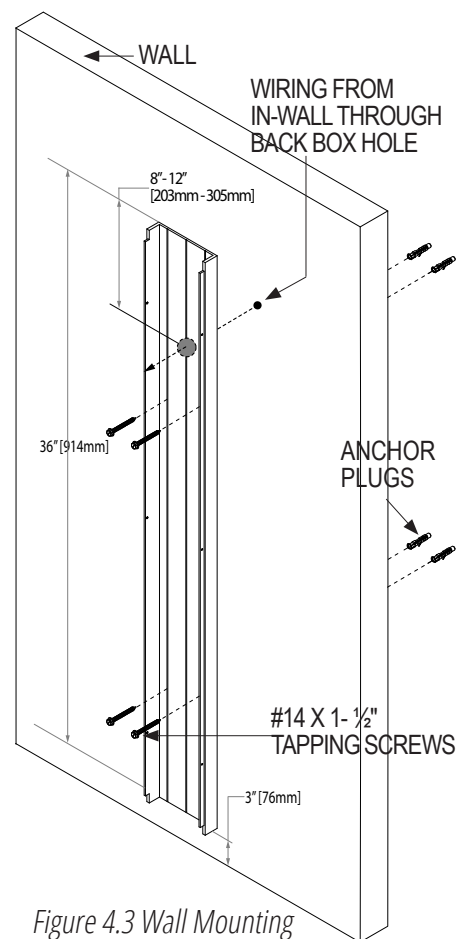

Figure 4.3 Wall Mounting
12. Secure the Back Box to the wall with the #14 x $1\frac{1}{2}$ " tapping screws provided. (Figure 4.3 and 4.4)
12. Secure the Back Box to the frame with the $\frac{1}{4}$ "-20 machine screws. (Figure 4.3 and 4.4)